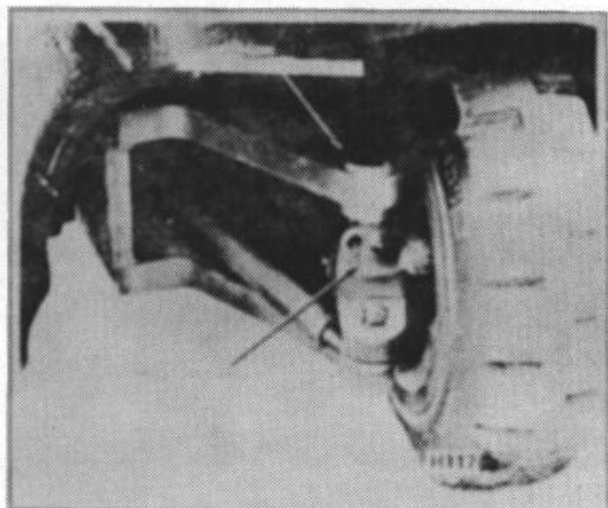

Figure 4.
**Step 2 refers to an axle equipped with closed end bearing. If the axle is equipped with open end bearings, the caps must be removed before the pin can be driven out. (Fig. 4)**
6. Attach the bearing caps (Fig. 4) if so equipped.
### SPINDLE (Fig. 4)
1. Remove wheel. Disconnect the tie rod. Unscrew nut from king pin retainer pin. (Fig. 4) Knock out retainer pin.
2. Remove the bearing cap (Fig. 4) or break out the end of the upper needle bearing; then, using a bar of slightly smaller diameter than king pin and hammer, drive out king pin.